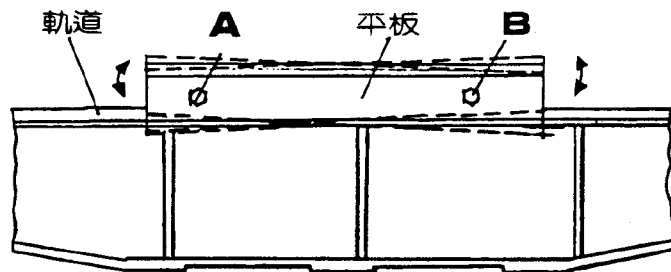
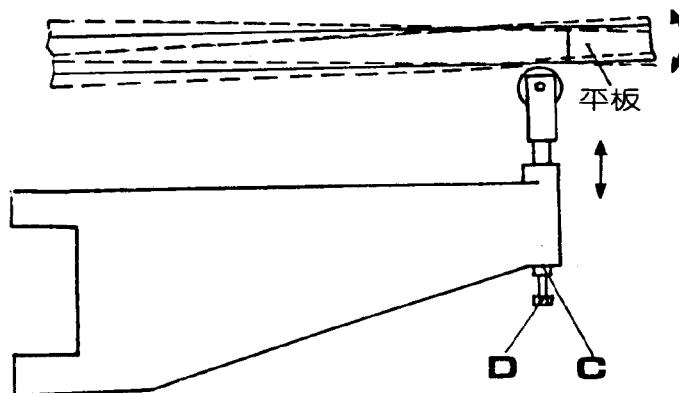
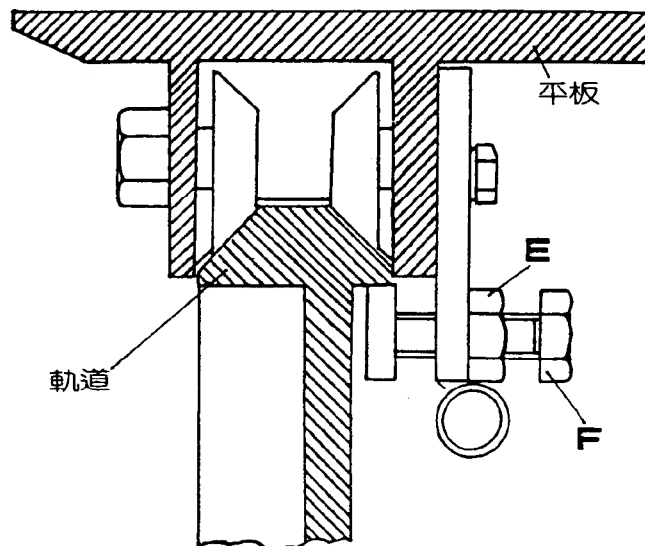

FIG1
FIG2
FIG3
## 一、平板調整 FIG1 FIG2 FIG3
1. 調整滑輪支軸 A、B、使其平板表面，與軌道平行。(FIG. 1)
2. 放鬆螺帽 C 調整螺絲 D 使整塊平板成水平之後鎖緊螺帽 C。(FIG. 2)
3. 放鬆螺帽 E 調整螺絲 F 使平板與軌道密切配合之後，鎖緊螺帽 E (FIG. 3)
### I. Adjustment of Slab. (FIG1, FIG2, FIG3)
1. Adjust Pulley Axle A, B to make the surface of the slab parallel with the track. (FIG 1)
2. Loosen Nut C and adjust Screw D to make the slab level, and then, lock nut C tightly. (FIG. 2)
3. Loosen Nut E and adjust Screw F to make the slab perfectly match with the track, and then, lock nut E tightly. (FIG. 3)